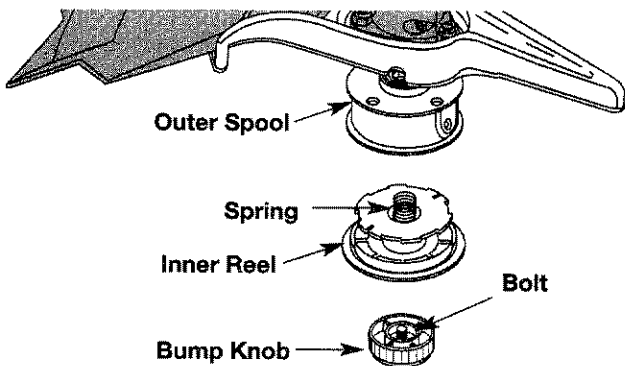

Fig. 31
1. Hold the outer spool with one hand and unscrew the Bump Knob clockwise (Fig. 31). Inspect the bolt inside the bump knob to make sure it moves freely. Replace the bump knob if damaged.
2. Remove the inner reel from the outer spool (Fig. 31).
3. Remove spring from the inner reel (Fig. 31).
2. Remove the old inner reel from the outer spool (Fig. 31).
3. Remove the spring from the old inner reel (Fig. 31).